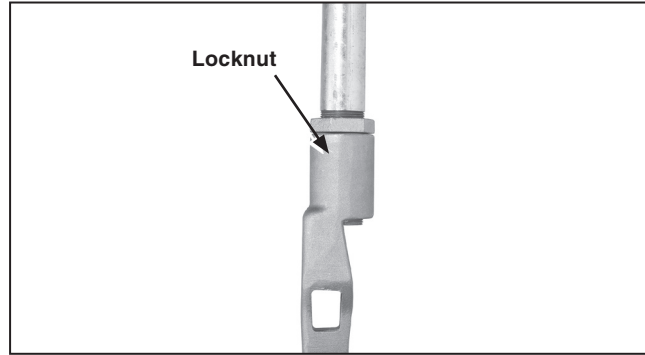

Figure 19. Installing the lowest operating pipe section into the operating handle assembly.
STEP 17. Install the lowest vertical operating-pipe section by threading one end of the pipe into the coupling on the operating handle. Approximately ¼-inch (6 mm) of thread should extend through the coupling. Tighten the locknut. See Figure 19.